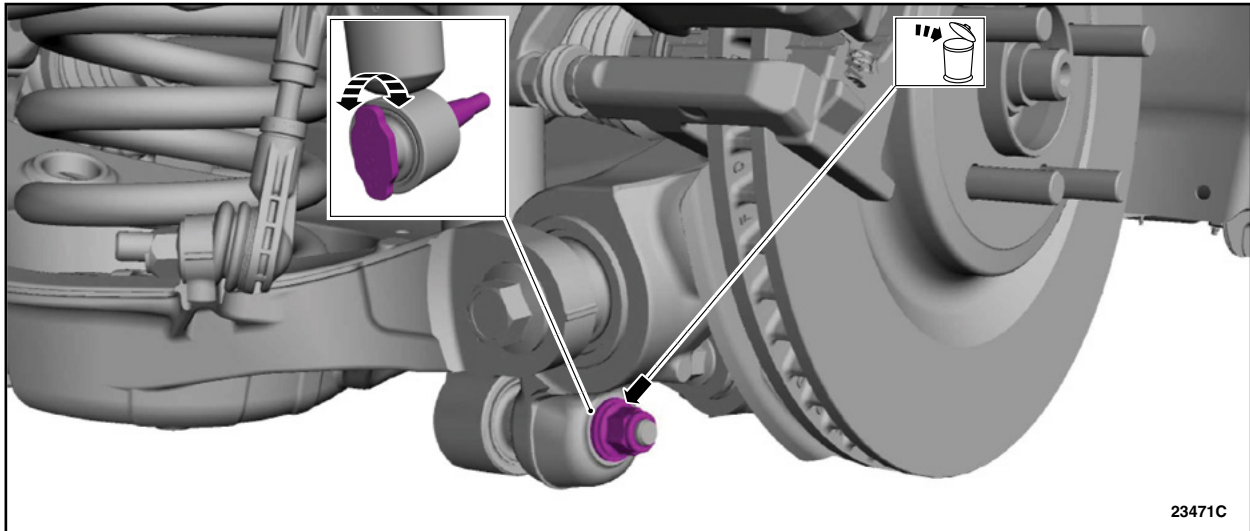

FIGURE 4
9. Remove and discard the LH rear shock absorber lower nut. See Figure 4.